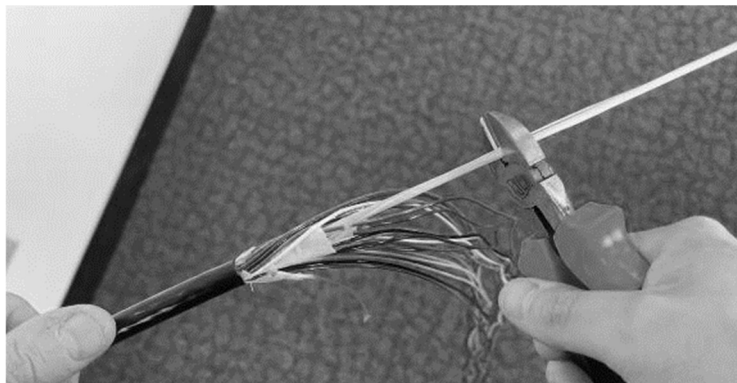

Figure 10 - Cut the central strength member to the required length
4.11 Central Strength Member (CSM): After carefully unwrapping the buffer tubes from the central strength member, consult splice closure instructions to cut to required length. (Figure 10)